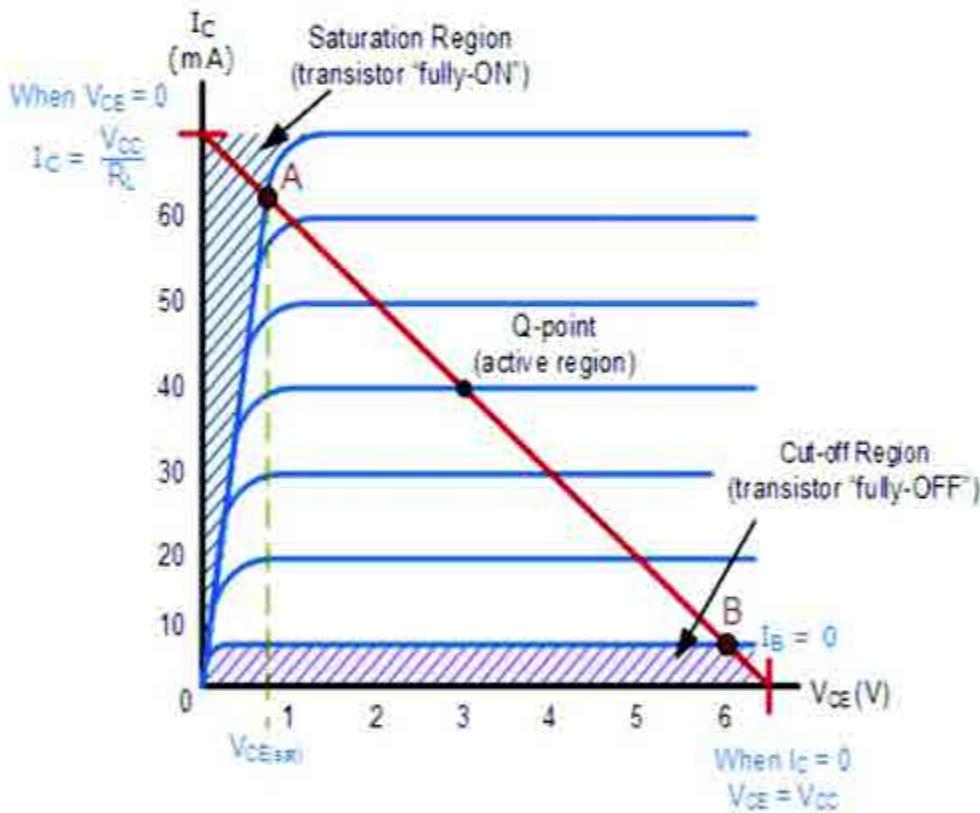

Fig. 5.15 Operating Region
A transistor acts as a switch by driving it back and forth between its cut-off (OFF) and saturation (ON) regions. The operating region is shown in Fig 5.15.